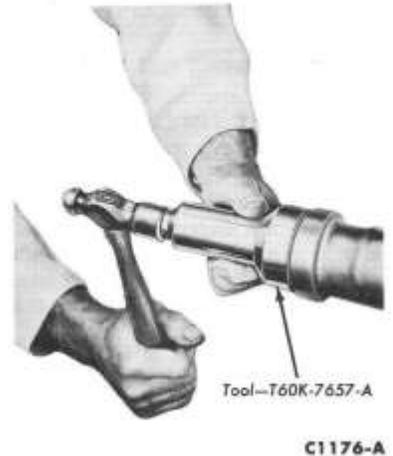

FIG. 13—Seal Installation
2. Disconnect the drive shaft from the rear U-joint flange and remove the drive shaft. Insert the tool shown in Fig. 13 into the opening of the extension housing to prevent the lubricant from leaking out.
24. Install the extension housing seal using the tool shown in Fig. 13.